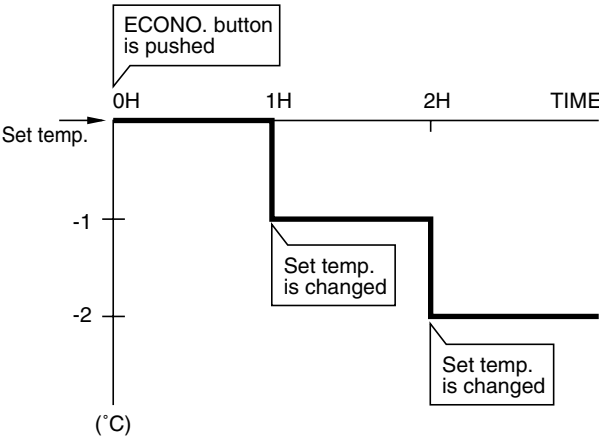

Fig. 7-6-2
- (1) In the ECONO. mode, the set temp. by the remote control is changed automatically as shown in Fig. 7-6-2.
- (2) Fan speed → LOW